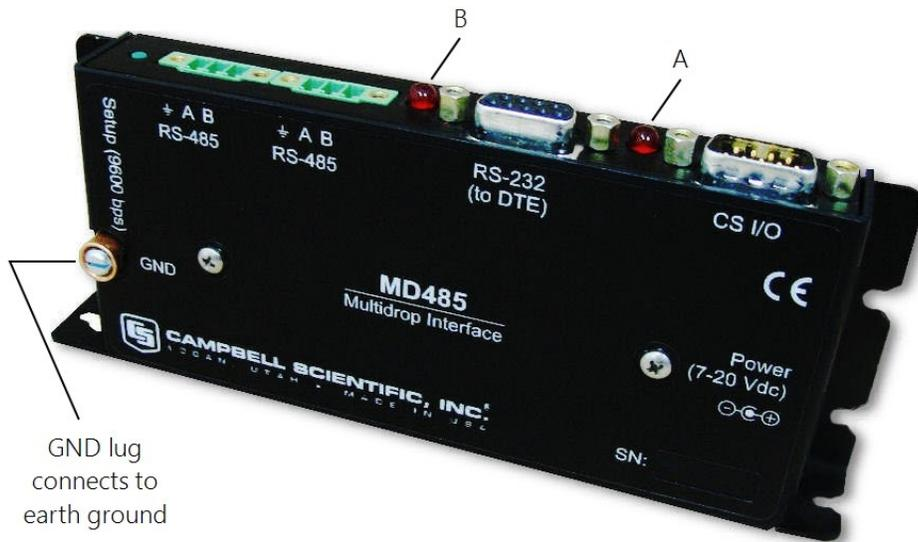

Figure 3-1. The MD485 has a ground lug that should be attached to earth ground, and LEDs that indicate traffic on the ports.
The MD485 has a GND lug (see Figure 3-1 [p. 3]). Connect this GND lug to earth ground with 8 AWG wire. This connection should be as short as possible.
When the RS-485 port is an active port, the LED nearest that connector (labeled B in Figure 3-1 [p. 3]) indicates traffic on the RS-485 port, and the other LED (labeled A) indicates traffic on the other active port (CS I/O or RS-232). When CS I/O and RS-232 are the active ports, the LED between the CS I/O connector and the RS-232 connector (A) indicates activity on the CS I/O port, and the other LED (B) indicates traffic on the RS-232 port. When data is being received and transmitted, the LEDs will flash. The LED for the port that is transmitting will be on more than the LED for the receiving port.